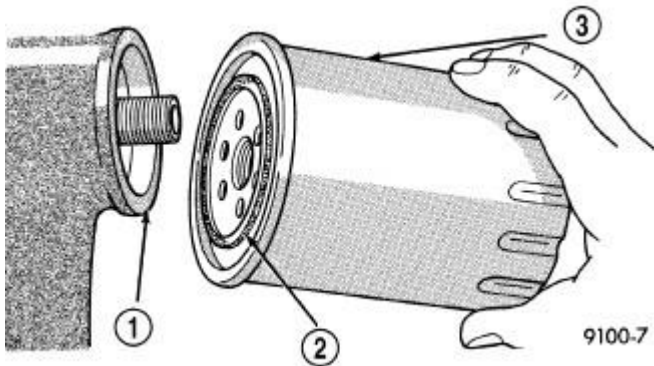

Fig. 155: Installing Engine Oil Filter
1. Lightly lubricate oil filter gasket (2) with engine oil. Refer to **Fig. 155**.
2. Thread filter (3) onto adapter nipple. When gasket makes contact with sealing surface, hand tighten filter one full turn, do not over tighten.